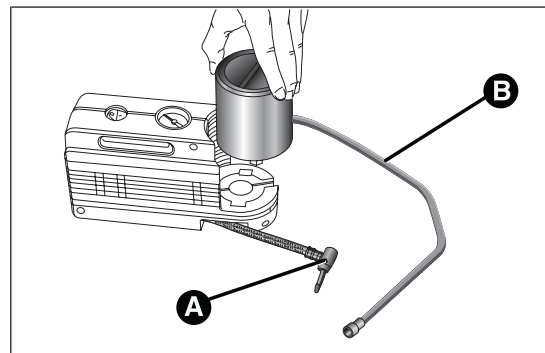

fig. 128
- disconnect connection A fig. 128;